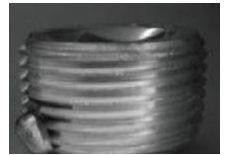

Figure 8
- Verify sufficient HTL Lubricant is on conduit entries (recommend approximately 1/8" bead around the first thread) and that all unused conduit entries on the driver housing are closed with lubricated plugs (see Figure 8).
- Verify conduit is installed for at least five (5) full threads into the driver housing conduit entries.